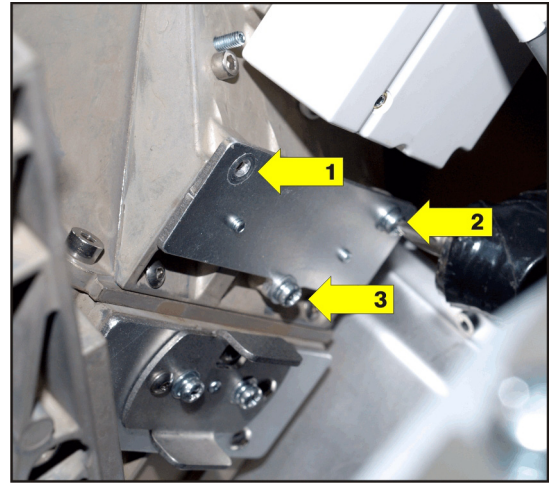

Figure 5-69 Remove Contrast Aperture
4. Remove the three screws securing the contrast aperture to the IOS (Figure 5-69).